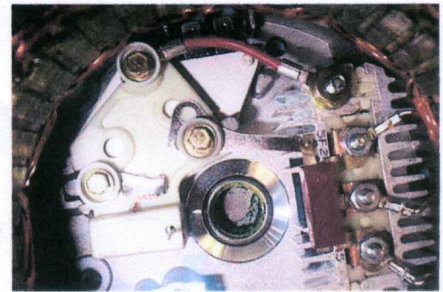

Figure 7
2. Next, you lift out the rotor (**Figure 6**) and look into the back half of the alternator casing (**Figure 7**).
3. On the left of **Figure 7** you will see 3 bolts with insulator rings around them. They hold the brush holder on top of the voltage regulator and both the brush holder and the voltage regulator to the casing.
8. Pass the three bolts with their insulators in place through the brush holder and the voltage regulator and screw them in place as seen in **Figure 7**.